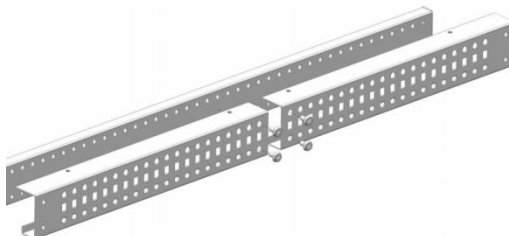

Figure 3
4.Insert M5\*10 Cross head screws through into the holes in the Corner Brackets and Center Sections. (Figure 3)